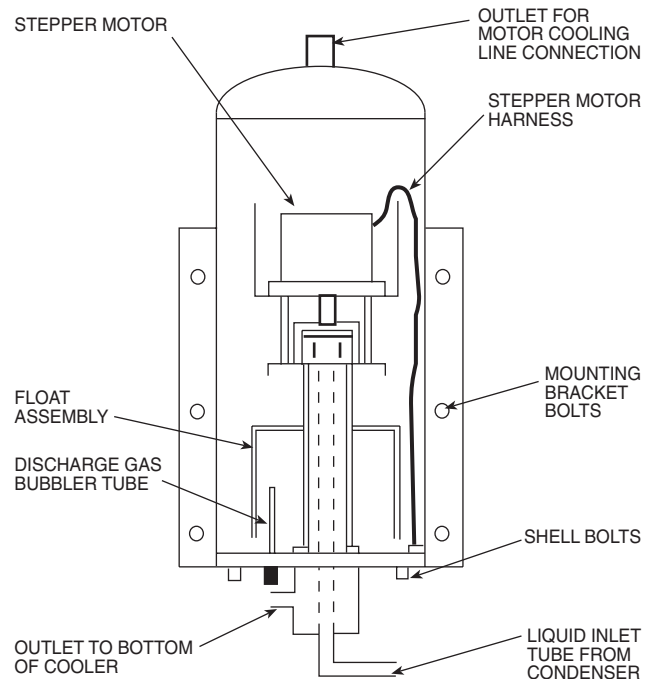

Fig. 16 — 30GX,HX Cutaway View of Economizer Assembly
INSPECTING/OPENING ECONOMIZERS — To check the physical operation of an economizer (see Fig. 16), the following steps must be performed:
- a. Verify that float assembly (see cross section view in Fig. 16 moves up and down freely. It should take only a minimal force (less than one pound) to move the float and there should be no binding.